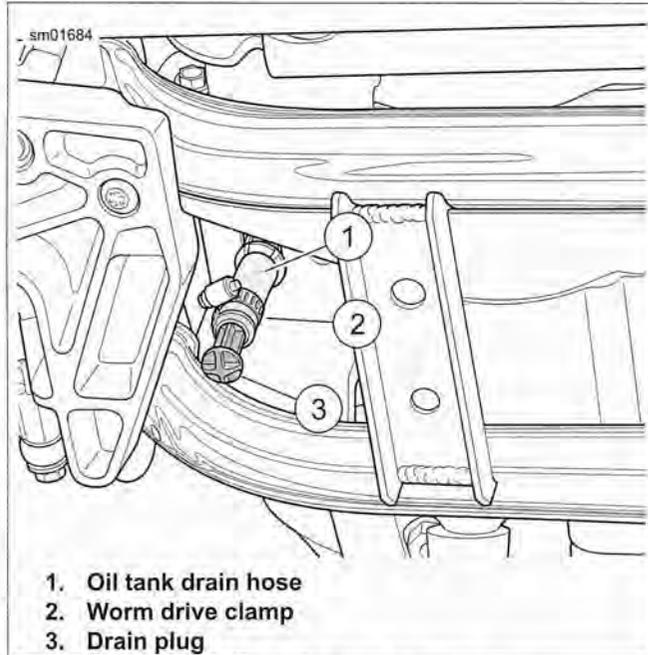

Figure 1-4. Oil Tank Drain Hose
- See Figure 1-4. Place a suitable container directly under the drain hose (1) at the bottom rear of the engine crankcase. The container must be able to hold approximately 3.0 qt (2.8 L).
- Loosen worm drive clamp (2) and pull drain plug (3) from end of drain hose. Completely drain engine oil from oil tank. It is not necessary to drain engine crankcase.